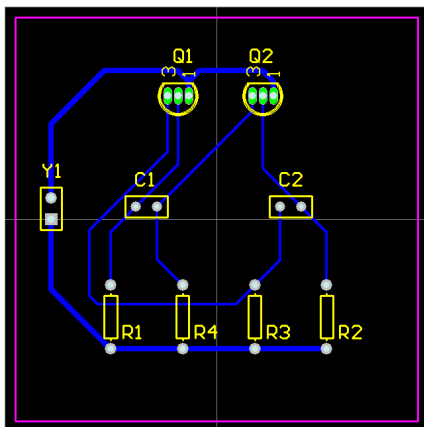

Figure 6. Manually routed board, with tracks placed on the bottom layer.
12. You can now route the rest of the board in a similar manner to that described in the previous steps. Figure 6 shows the manually routed board.